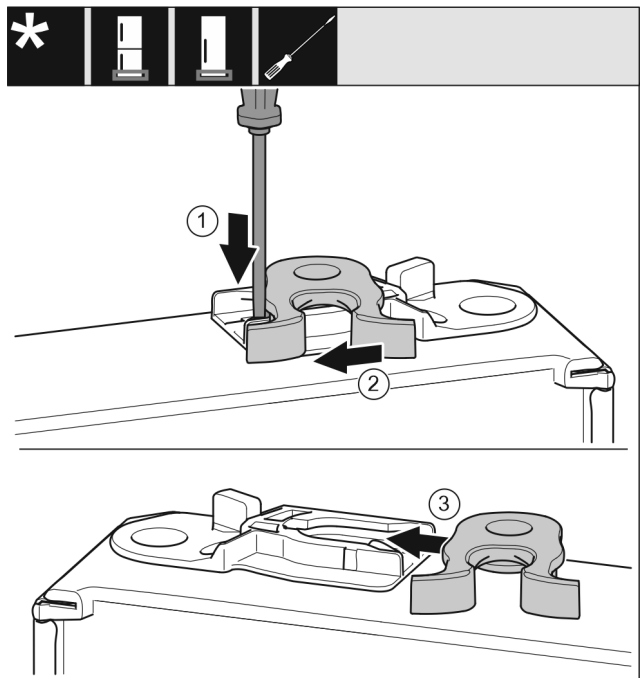

Fig. 16
- ▶ Push the lug downwards with a slotted screwdriver. Fig. 16 (1)
- ▶ Pull the door latch out of the guide. Fig. 16 (2)
- ▶ Push the door latch into the guide on the other side. Fig. 16 (3)